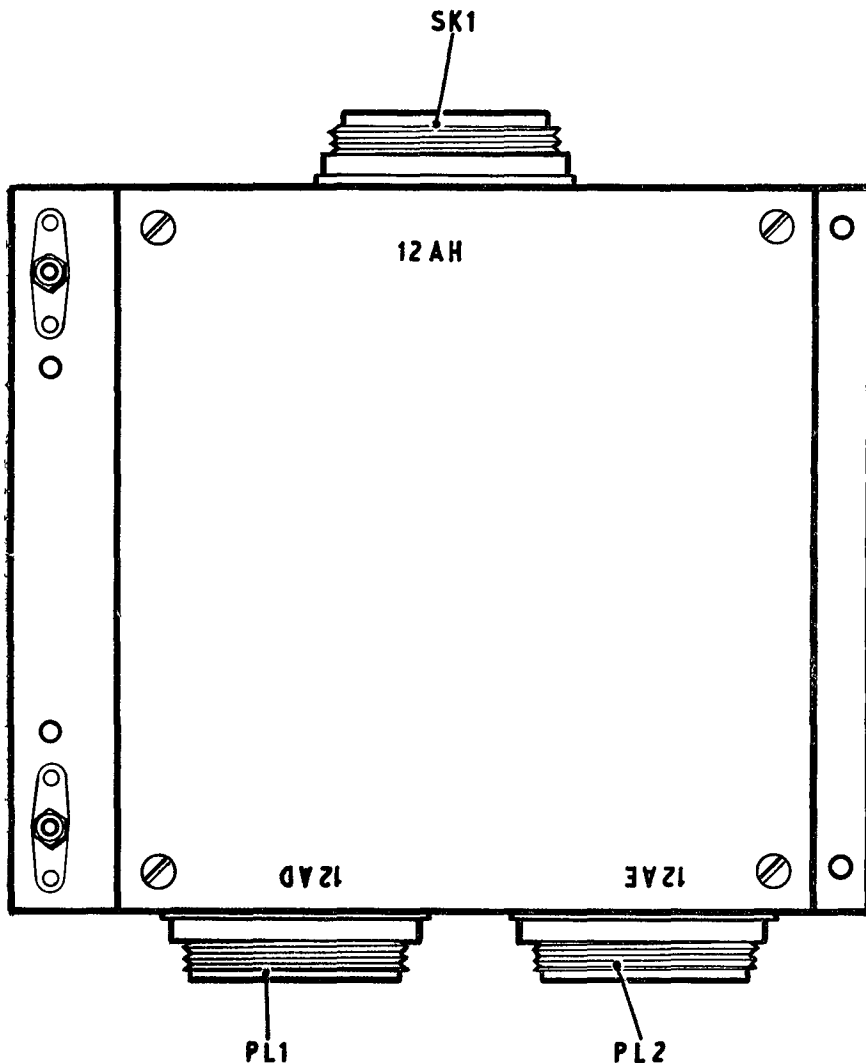

Fig. 3. Junction box Type 4191
**JUNCTION BOX TYPE 4191 (fig. 3)**